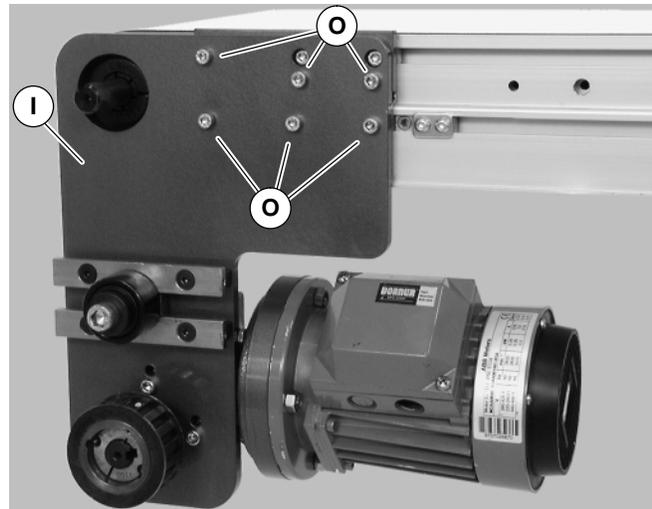

Figure 7
4. Attach mount assembly (I of Figure 7) with screws (O). Install medium length screws on bottom, long screw upper left, short screws upper right. Tighten screws to 110 in-lb (9 Nm).